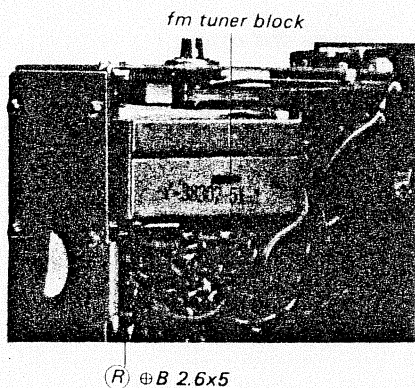

Fig. 2-15
4. Remove the screws ($\oplus B 2.6 \times 5$) marked $\textcircled{R}$ in Fig. 2-15.